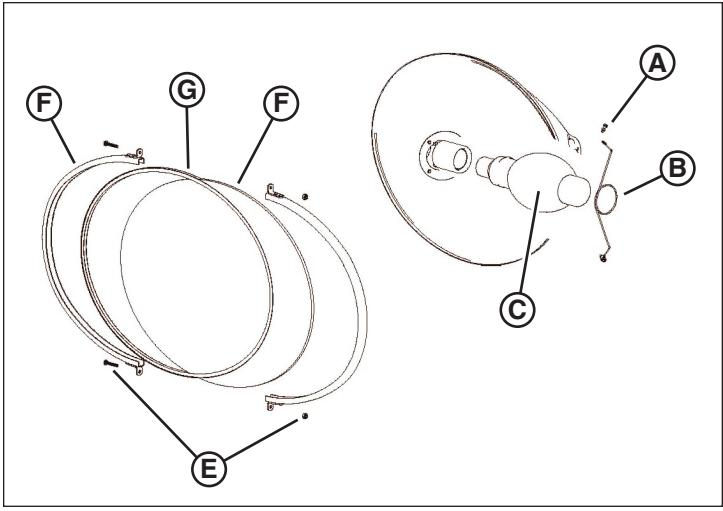

Figure 22
4. Loosen the lens channel screws (**E**, Figure 22) to allow the removal of the lens channel (**F**).
5. Remove the silicone gasket (**G**, Figure 22) and lens (**H**).
6. Remove the support clip screws (**A**, Figure 22) and support clip (**B**).
7. Carefully remove the old lamp (**C**, Figure 22), and install the correct replacement lamp. See **Specifications**.
8. Clean the reflector (**D**, Figure 22) and lens.